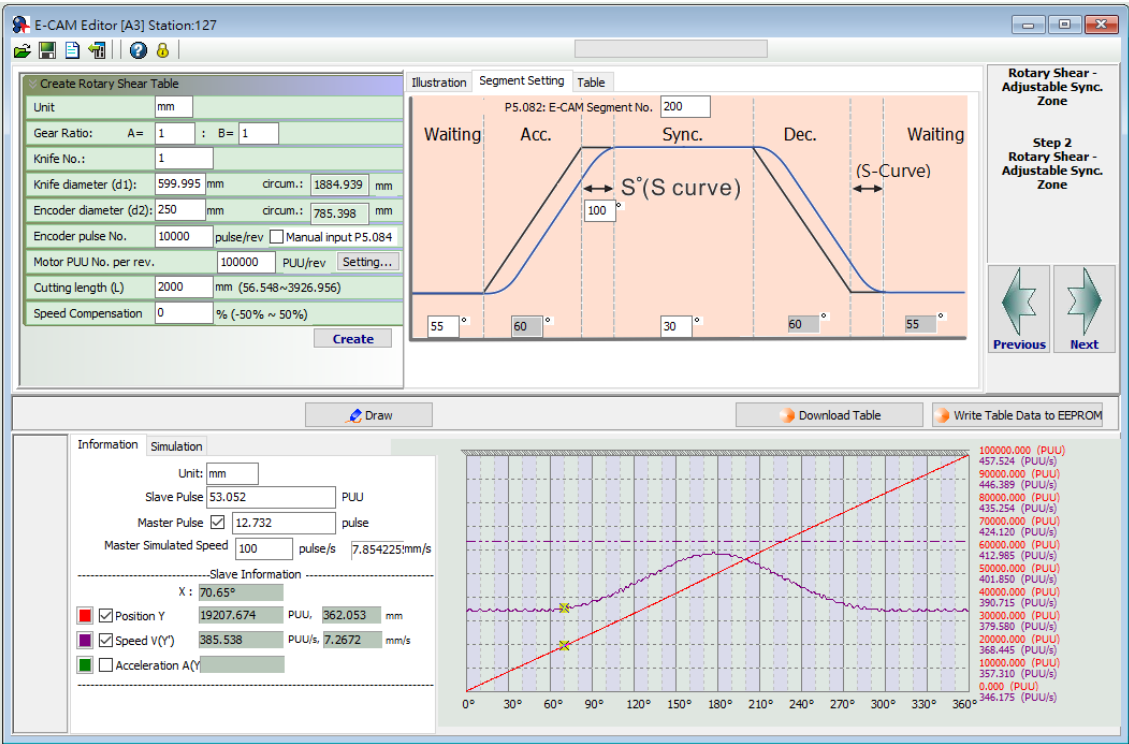

Figure 7.3.7.11 ASDA-Soft setting interface for [Rotary Shear - Adjustable Sync. Zone]
This table creation method is for generating an E-Cam curve with adjustable synchronous speed zone. You can use ASDA-Soft to create the table. The parameter setting for the rotary shear curve is similar to the setting of that without the synchronous speed zone, as shown in Figure 7.3.7.11. The software automatically limits the cutting length by referring to the ratio (R) of the cutting length (L) and the arc length between cutter ends (a); $R = L / a$.